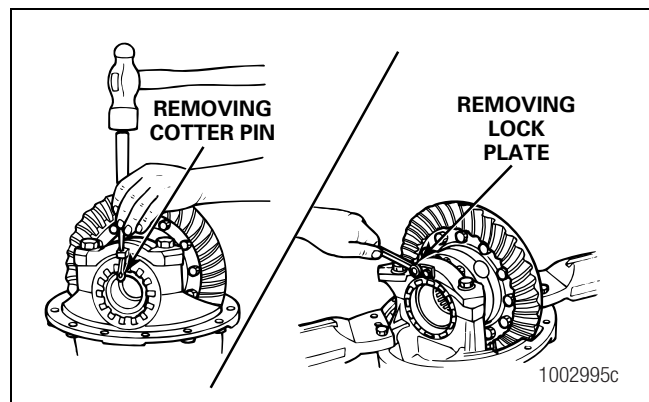

Figure 3.43
3. Remove the capscrews, cotter pins, roll pins or lock plates, if equipped, that hold the bearing adjusting rings in position. Use a small drift and hammer to remove the pins. Each lock plate is held in position by two capscrews. Figure 3.43.